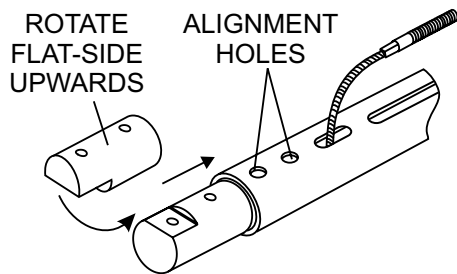

Figure 6. Mounting Holes Alignment
- Rotate block so flat side is now upwards. Align mounting holes as shown in Figure 6.